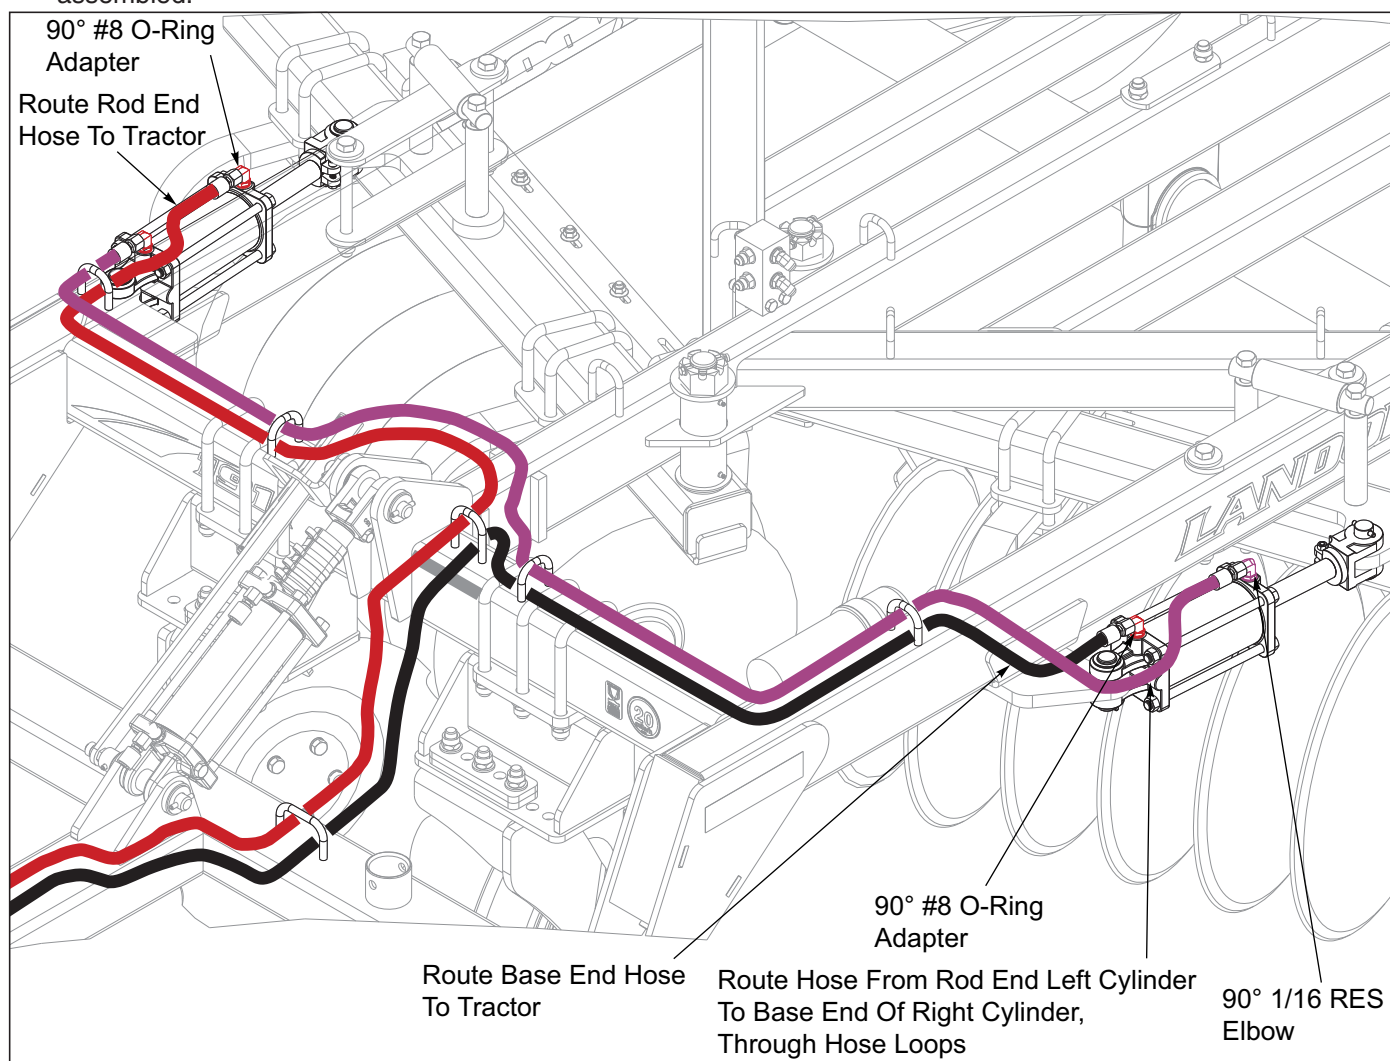

Figure 3-1: Disc Gang Installation
2. **See Figure 3-1** for proper disc gang cylinder fitting locations and hose routings. Install one 90° 1/16 res elbow to rod end of left cylinder and three 90° #8 o-ring adapters in other three ports of cylinders in locations shown **See Figure 3-1**.